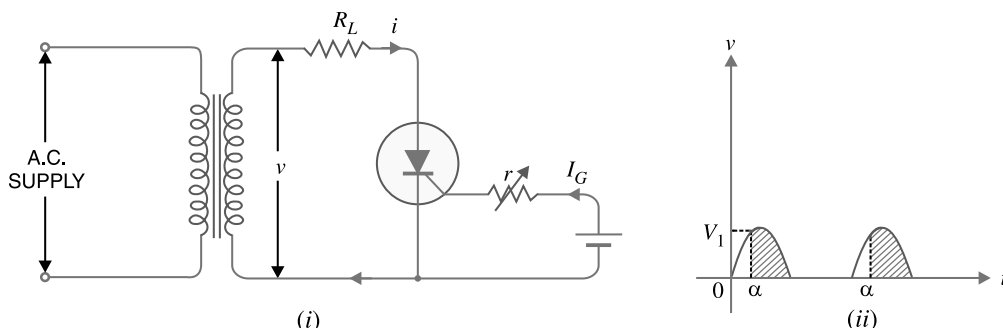

Fig. 18.15
One important application of an *SCR* is the controlled half-wave rectification. Fig. 18.15 (i) shows the circuit of an *SCR* half-wave rectifier. The a.c. supply to be rectified is supplied through the transformer. The load resistance  $R_L$  is connected in series with the anode. A variable resistance  $r$  is inserted in the gate circuit to control the gate current.
(ii) The *SCR* will conduct during the positive half-cycles provided proper gate current is made to flow. The greater the gate current, the lesser the supply voltage at which *SCR* is turned *ON*. The gate current can be changed by the variable resistance  $r$  as shown in Fig. 18.15 (i).
(iii) Suppose that gate current is adjusted to such a value that *SCR* closes at a positive voltage  $V_1$  which is less than the peak voltage  $V_m$ . Referring to Fig. 18.15 (ii), it is clear that *SCR* will start conducting when secondary a.c. voltage becomes  $V_1$  in the positive half-cycle. Beyond this, the *SCR* will continue to conduct till voltage becomes zero at which point it is turned *OFF*. Again at the start of the next positive half-cycle, *SCR* will start conducting when secondary voltage becomes  $V_1$ .
(iv) Referring to Fig. 18.15 (ii), it is clear that firing angle is  $\alpha$  *i.e.* at this angle in the positive half-cycle, *SCR* starts conduction. The conduction angle is  $\phi (= 180^\circ - \alpha)$ .
**Mathematical treatment.** Referring to Fig. 18.15 (i), let  $v = V_m \sin \theta$  be the alternating voltage that appears across the secondary. Let  $\alpha$  be the firing angle. It means that rectifier will conduct from  $\alpha$  to  $180^\circ$  during the positive half-cycles.